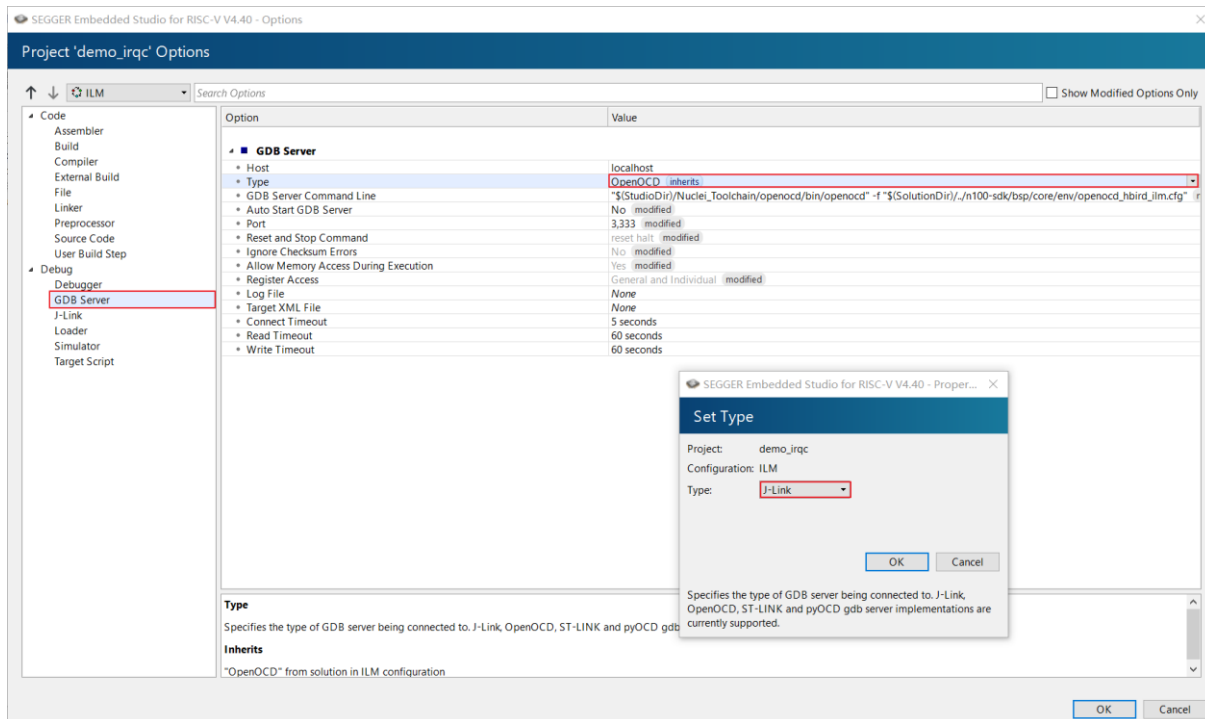

Figure 4-7 Modify Project Settings to Use J-Link
- Select the “Type” option under “GDB Server” column and change it to “J-Link”, as shown in Figure 4-7.